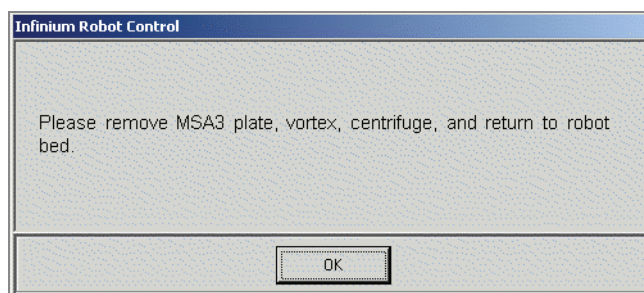

Figure 115 Vortex & Centrifuge Prompt
13. After the robot adds the 0.1N NaOH to the DNA in the MSA3 plate, follow the instructions at the prompt (Figure 115).